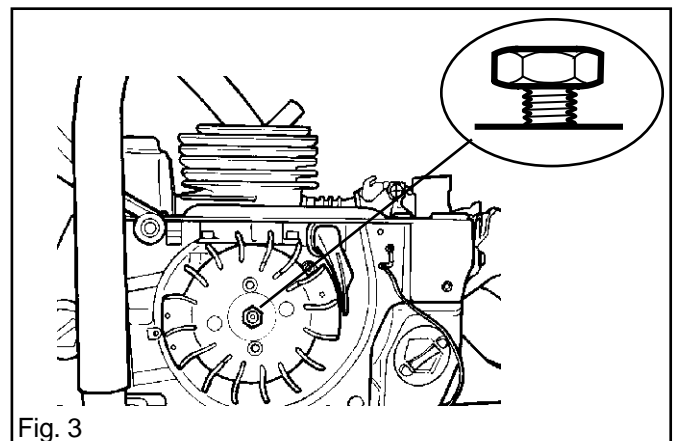

Fig. 3
7. Release the flywheel nut. Undo the nut until it is in line with the thread on the shaft outer end. See fig. 3.